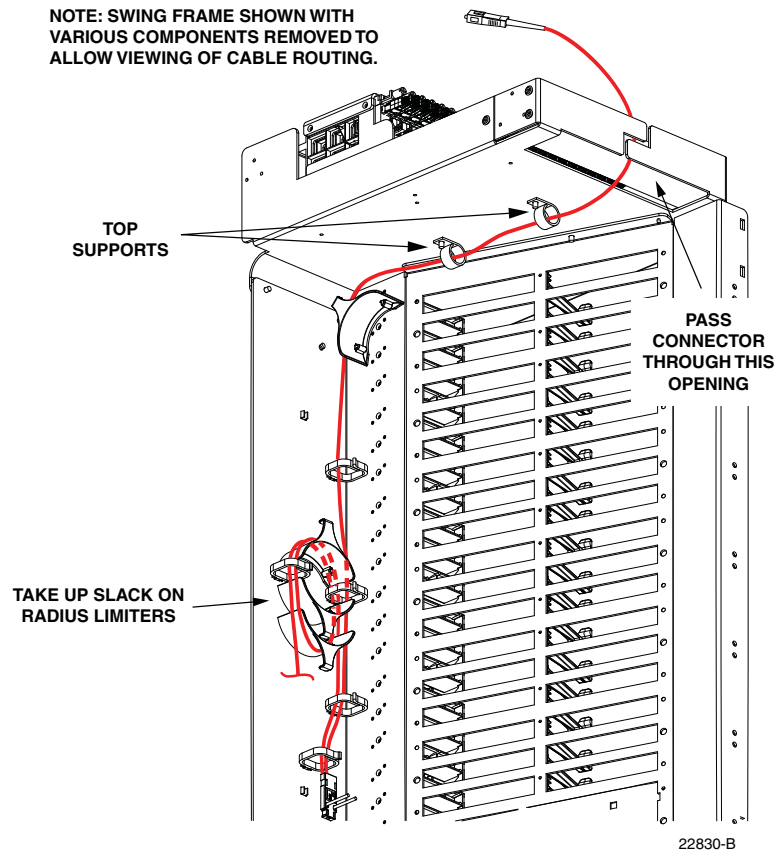

Figure 57. Re-Routing the Feeder Cable Fiber
7. When the feeder cable connector and fiber are free, pass the connector through the opening located behind the splitter compartment as shown in Figure 57.